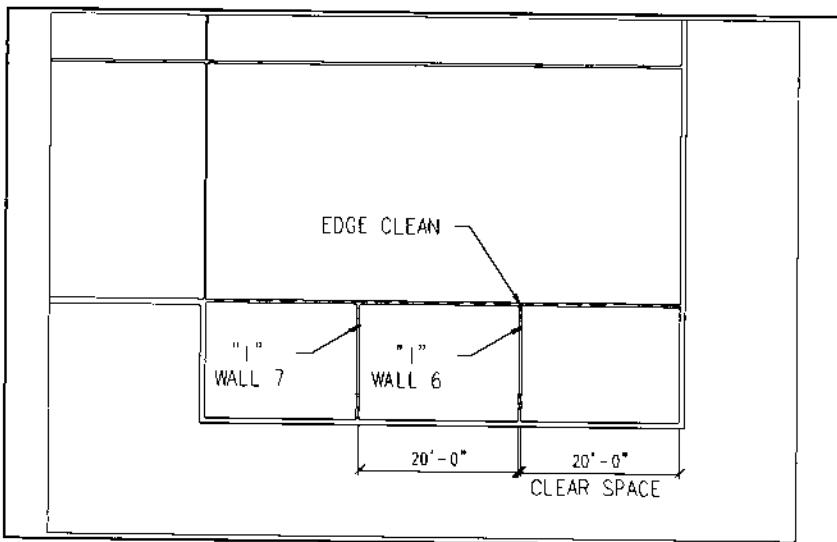

Figure 32.
5. The I wall command creates two smaller offices at 20' apart (without centerlines), cleaning up the intersection during the process as shown in Figure 32.